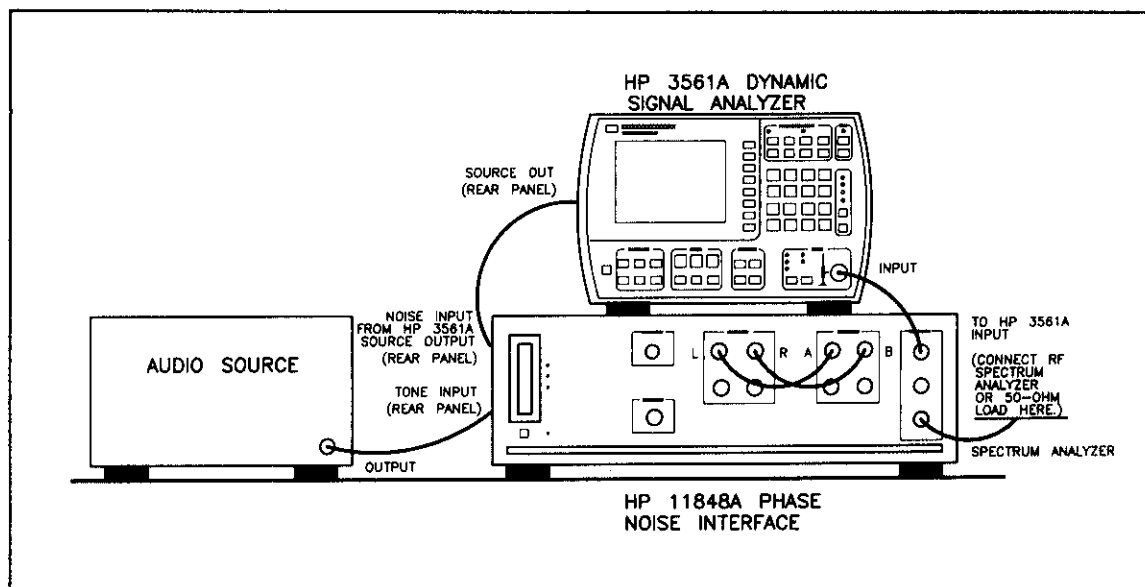

Figure 3. Spur Accuracy Test Setup
4. Connect the instruments as shown on the display and in figure 3.